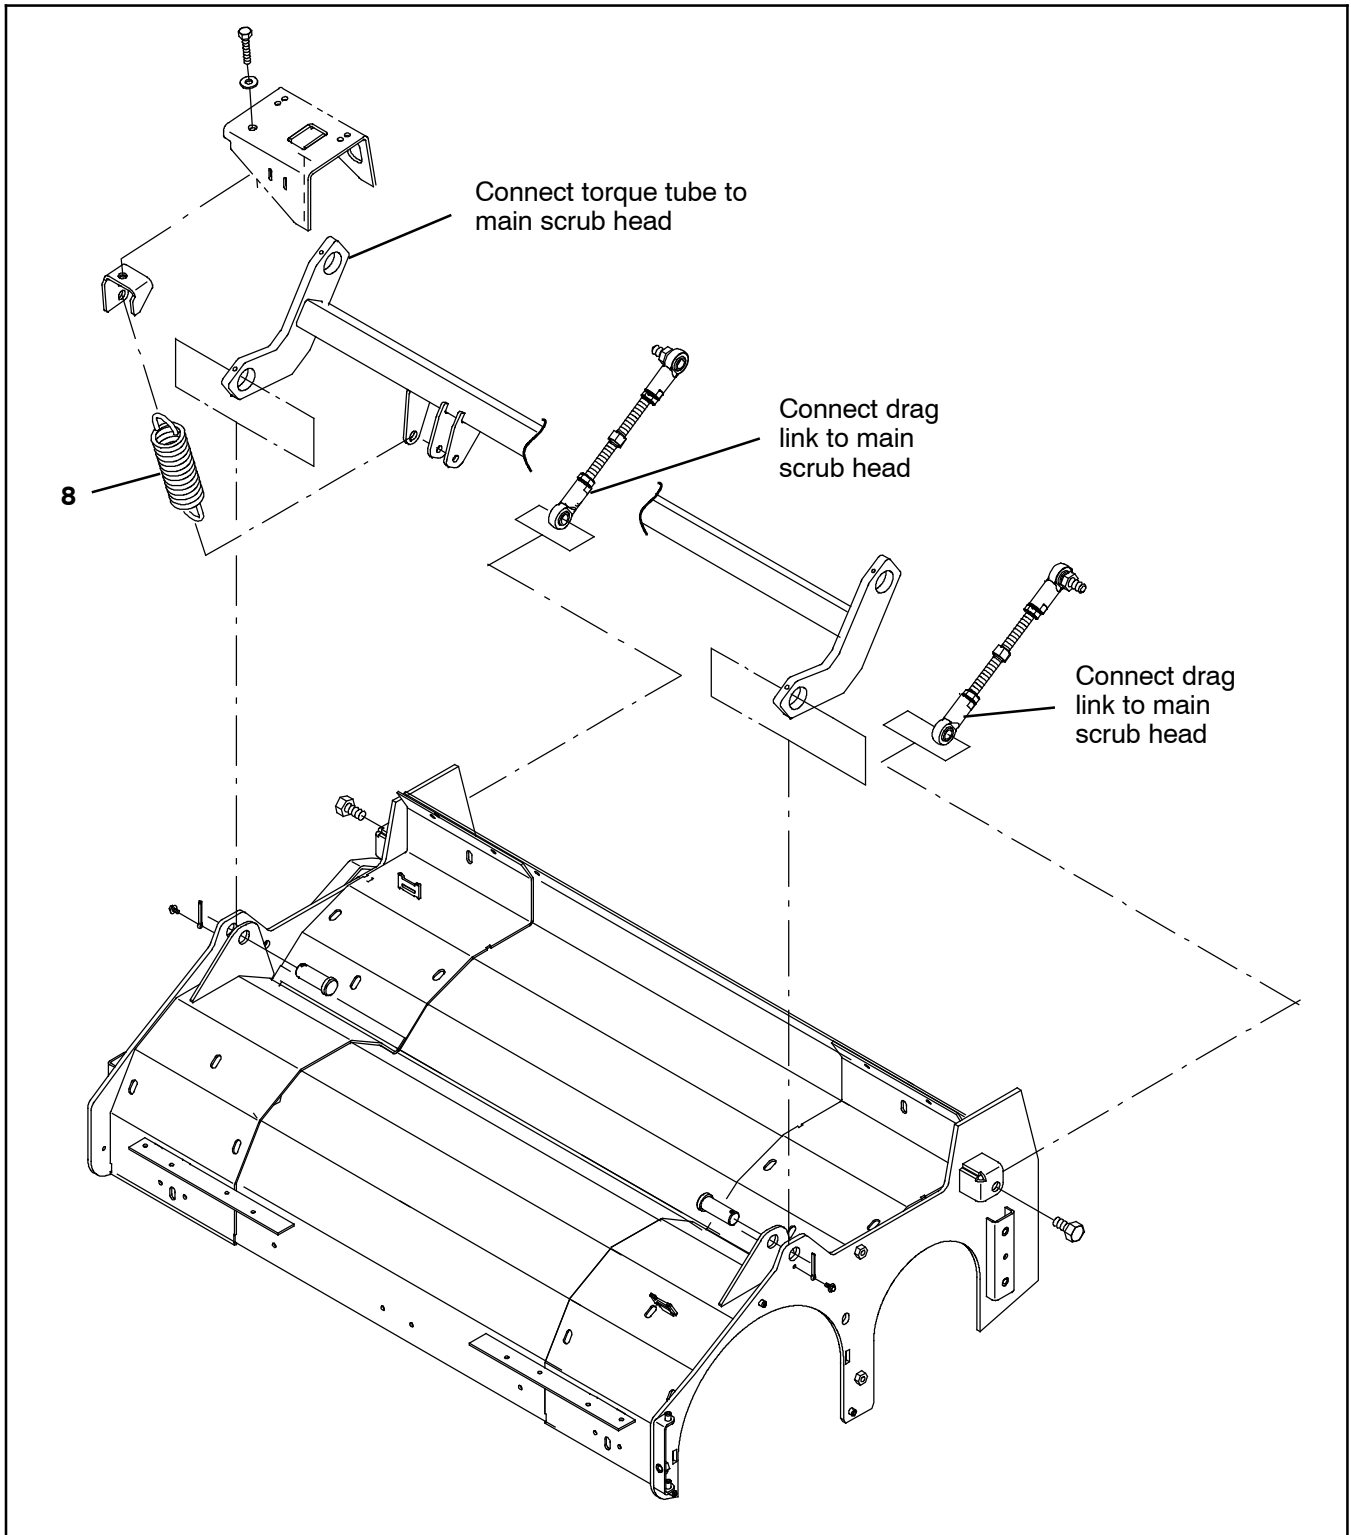

FIG. 10
- 29. Connect the torque tube to the scrub head. (Fig. 10)
- 30. Connect both drag links to the scrub head. (Fig. 10)
33. Install the extension spring (8) onto the torque tube and bracket. (Fig. 10)